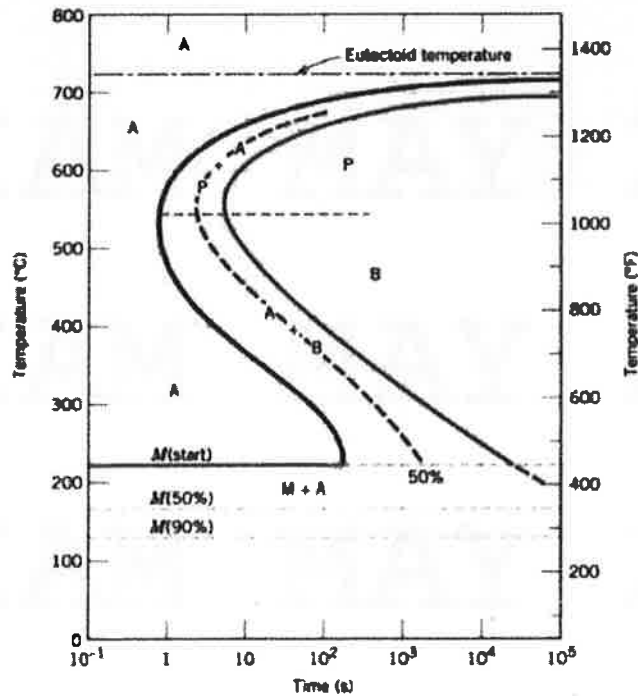

FIGURE Q5
5. Using the isothermal transformation diagram for an iron–carbon alloy of eutectoid composition in **FIGURE Q5**, specify the nature of the final microstructure (in terms of microconstituents present and approximate percentages of each) of a small specimen that has been subjected to the following time–temperature treatments. In each case assume that the specimen begins at 760°C and that it has been held at this temperature long enough to have achieved a complete and homogeneous austenitic structure.